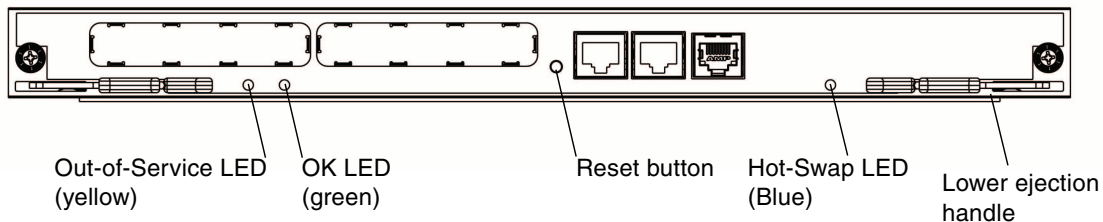

FIGURE 4-1 Netra CP3020 Board Front Panel
When the operating system is shut down, you can safely remove the board. Pull out the lower ejection handle (FIGURE 4-1) and wait for the blue Hot-Swap LED to light steadily before removing the board.
1. Use a ballpoint pen or other stylus to press and release the recessed Reset button on the front of the Netra CP3020 board (FIGURE 4-1).
- Graceful shutdown – Log in to the system and shut down the operating system using the appropriate operating system commands. Then pull out the lower ejection handle (FIGURE 4-1) and wait for the blue Hot-Swap LED to light steadily before removing the board.